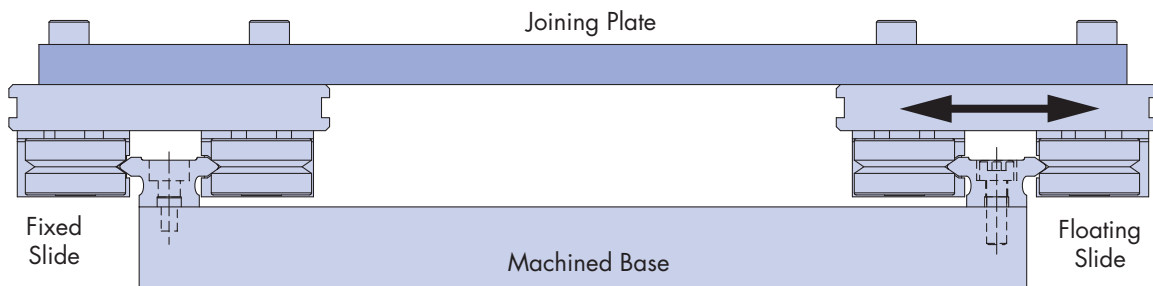

Figure 3.2 Slide setting procedure when using dowel pins.
3.2 If securing the slides with dowel pins as location it is best to fix one of the slides whilst leaving the other 'floating', assemble two carriage plates to a suitably sized joining plate and place onto the slides (figure 3.2). Run the carriages up and down the length of the slides until they are parallel and secure in place.